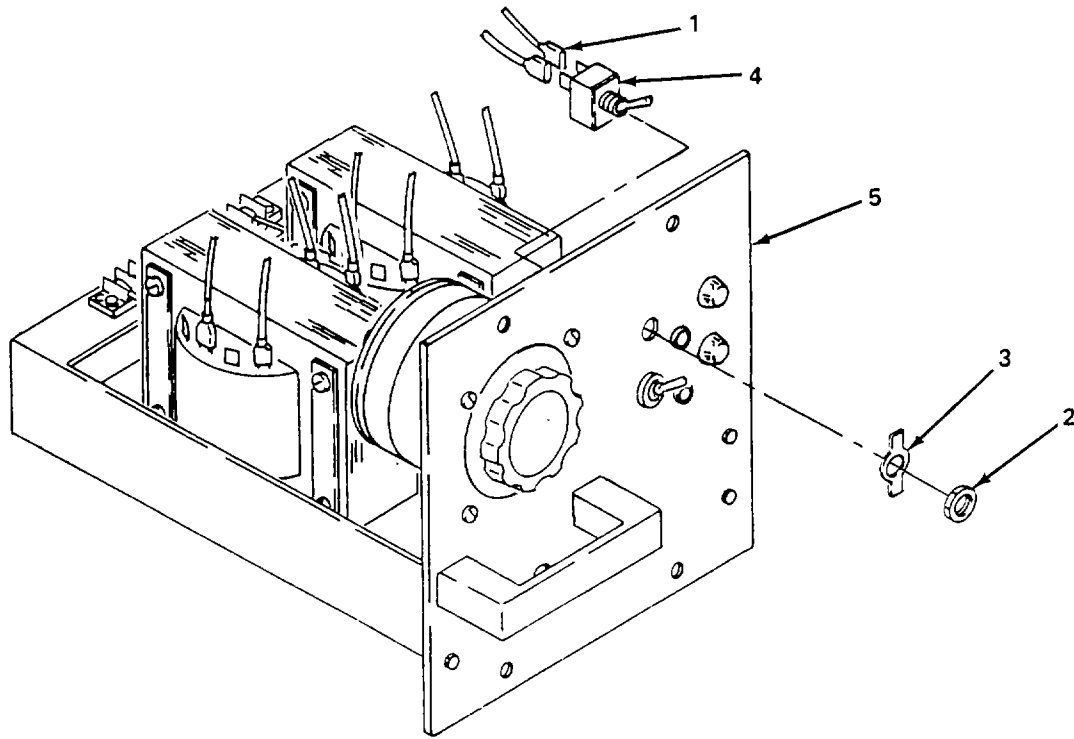

Figure 5-17. Double Light Power Supply (Inner Lock) Switch, Replace.
- (1) Replace switch. (figure 5-17)